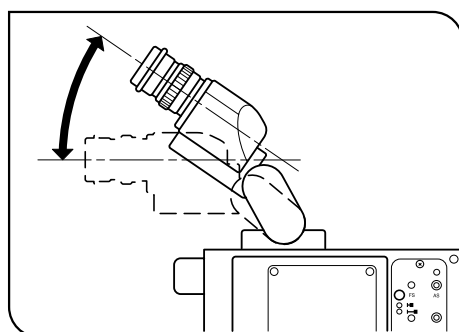

Fig. 17
**6 Adjusting the Tilt (with the U-TBI3/SWETTR-5) (Fig. 17)**